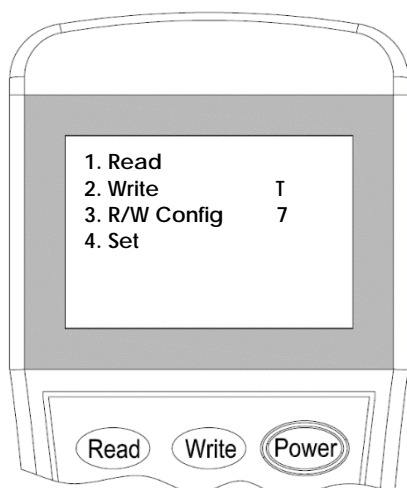
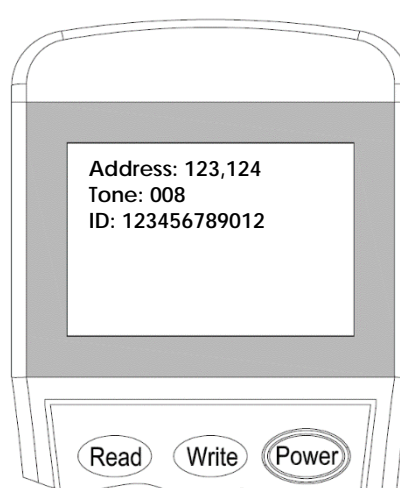

Figure 17
Figure 18
2. Switch-on the programmer, then press button **"Read"** or **"1"** to enter to **Read** mode (Figure 17). The programmer will display the configuration after few seconds. (Figure 18).